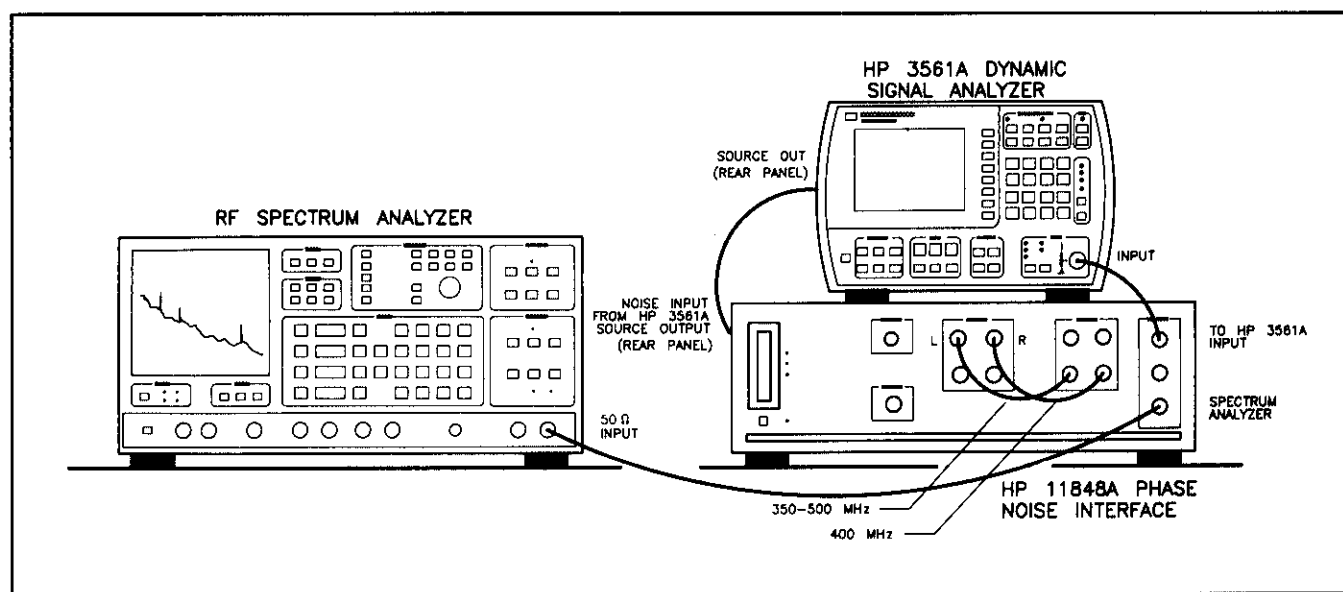

Figure 5. Noise Flatness Test Setup
4. Connect the instruments as shown on the display and in figure 5.